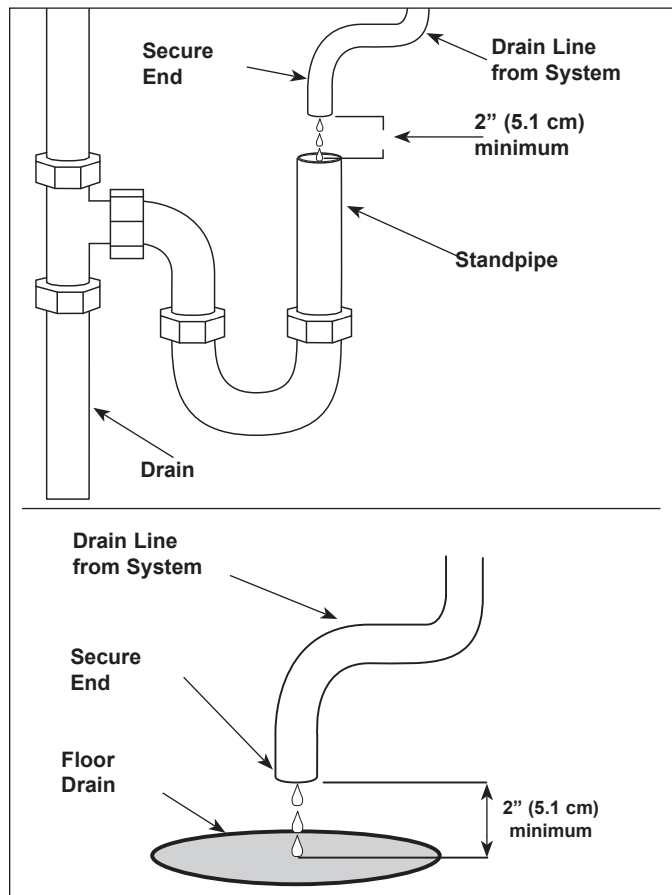

Figure 4. Proper Drain Plumbing
2. Connect one end of the hose to the Drain Valve and secure it with a provided Worm Clamp (Figure 4).
- The drain line plumbing must be position and secured at least 2 inches above the drain (Figure 4). This air gap protects the system from contamination in the event of a backed-up drain.